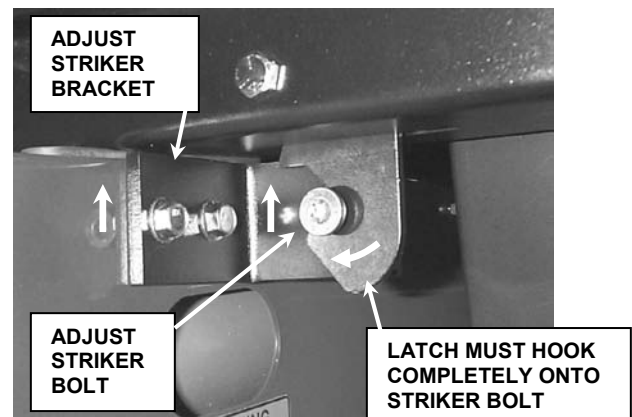

FIGURE 4.5
1. With cargo bed lowered, check to make sure that both latches hook completely onto striker bolts. See Figure 4.5.